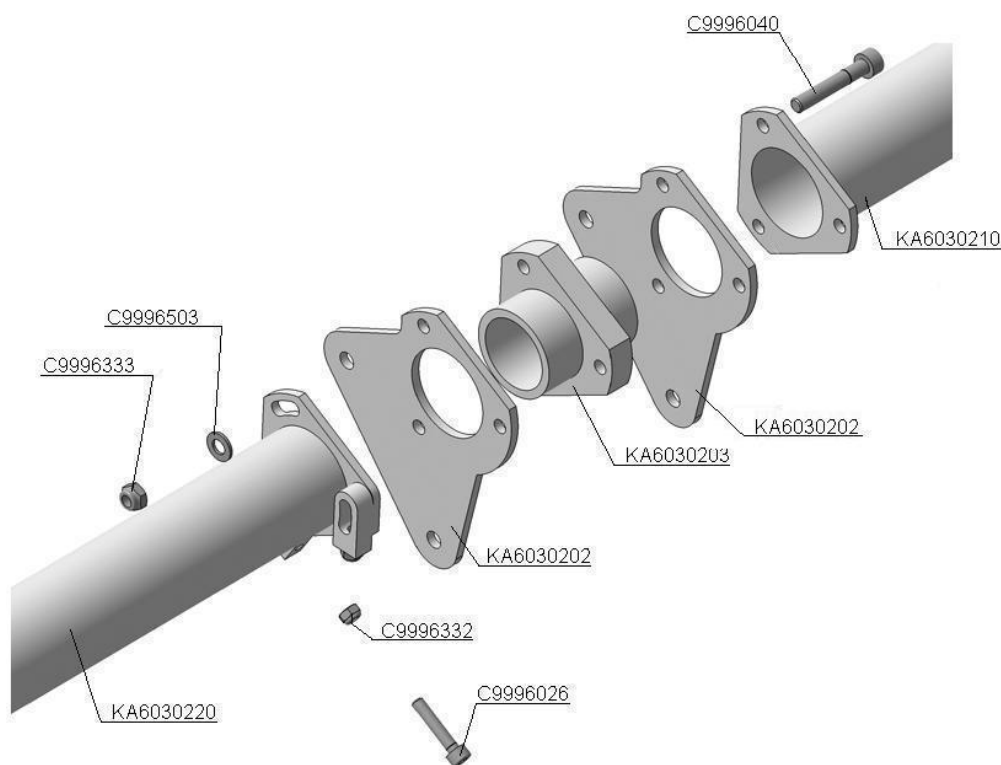

Fig. 7
- 1) Unscrew the lock-nut C9996332 (Self-locking nut DIN 985-M4, regular) by a 7 wrench towards the head of the bolt and release the bolts C9996026 (Bolt DIN 912 M4x 20-8.8), Fig. 7.
- 2) Unscrew the bolts C9996026 (Bolt DIN 912 M4x20-8.8) 5 turns from the flange of the flap rod KA6030220 (Transverse rod tube, left) by a 3 hex-nut wrench. Fig. 7.
- 3) Unscrew the nuts C9996333 (Self-locking nut DIN 985-M5, regular) from the bolts C9996042 (Bolt DIN 912 M5x45-8.8) by an 8 wrench and 4 hex-nut wrench. Fig. 7.
- 5) Fix position of the bolts C9996042 Bolt DIN 912 M5x45-8.8 with respect to the KA6030220 (Transverse rod tube, left) by the bolts C9996026 (Bolt DIN 912 M4x20-8.8). The bolts C9996026 (Bolt DIN 912 M4x20-8.8) are to be screwed into the flange of KA6030220 (Transverse rod tube, left) by 3 hex-nut wrench up to bolts C9996042 (Bolt DIN 912 M5x45-8.8). Fig. 7.